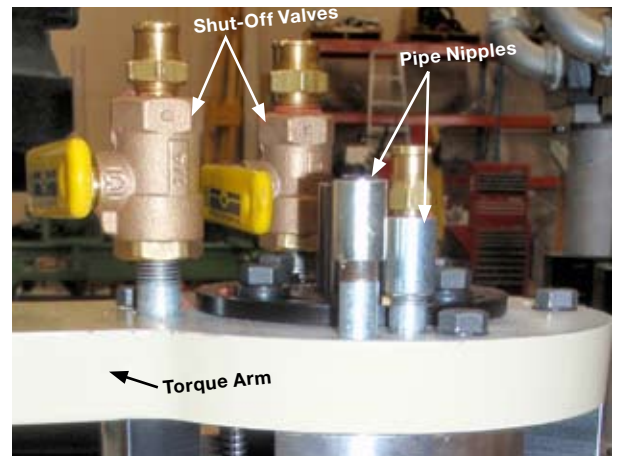

Figure 1
- 1) Label and remove all Shut-Off Valves and Pipe Nipples as shown in Figure 1.